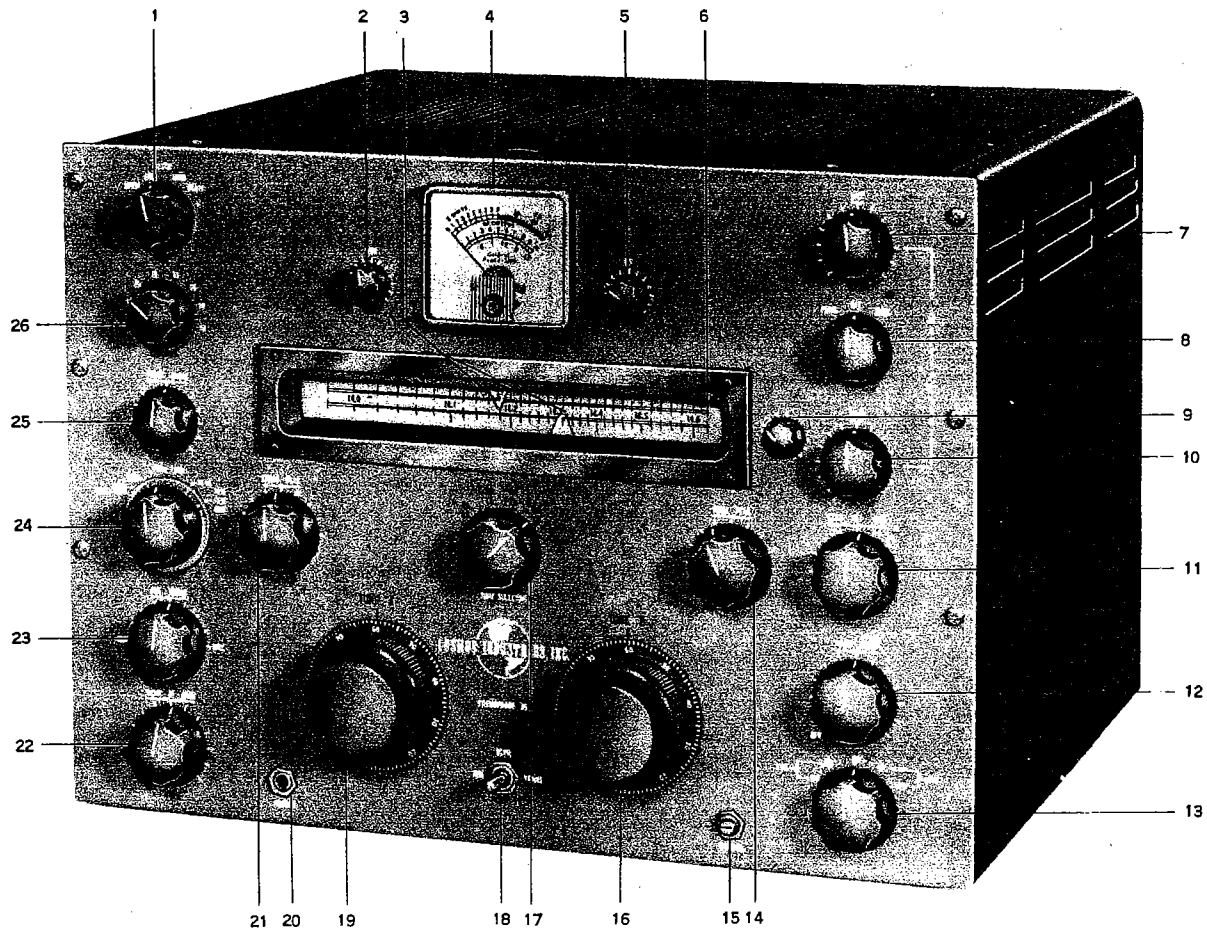

FIGURE 1. COSMOPHONE "35" - OPERATING CONTROLS
The Cosmophone "35" (figure 1) is a 35 stage bilateral receiver-transmitter, capable of transmitting or receiving SSB (single sideband), CW, and AM signals on the 10,11,15,20,40 and 80 meter bands. Dual tuning controls, TUNE A and TUNE B, (19 and 16), provide the convenience of transceiver operation plus the flexibility of being able to receive and transmit on separate frequencies. Furthermore, the transmit and receive frequencies can be instantaneously interchanged by rotating a TUNE SELECTOR control (17). Bands are selected by a bandswitch (26) on the front panel. For each position of the bandswitch, a drum type frequency indicating dial (6) is rotated so that it will present the proper scales. Two identically calibrated scales are presented for each band. Each scale has its own frequency indicating pointer (3) that is moved by a corresponding tuning control. The related scale, scale pointer, and tuning control are readily identified by means of matched colored markings. The positions of the TUNE SELECTOR control are also coordinated with the same set of matching